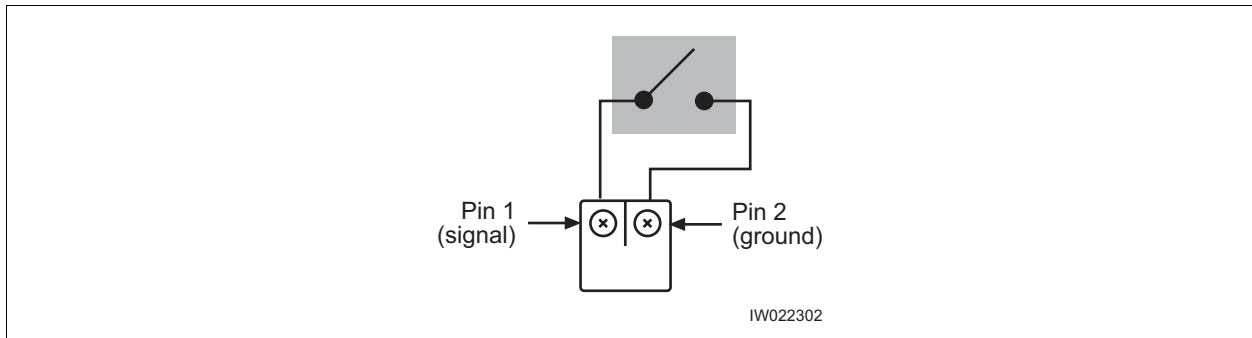

Figure 2-29: External Alarm Plug
- 2 Using the details provided in Figure 2-29, connect the normally-open alarm inputs from the external equipment to the external alarm plug.